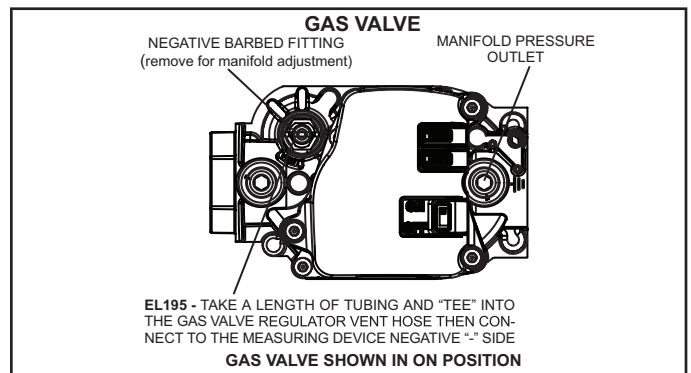

FIGURE 4
- 2 - Remove the heating compartment access panel. Turn the automatic gas valve switch to the OFF position. See figure 4.
When testing supply gas pressure, use the 1/8" N.P.T. supply line tap located on the gas valve to facilitate test gauge connection. See figure 4. Check gas line pressure with unit firing at maximum rate. Low pressure may result in erratic operation or underfire. High pressure can result in permanent damage to gas valve or overfire.
- 4 - If necessary, make adjustments. Figure 4 shows location of adjustment screw.
When testing manifold gas pressure, use the 1/8" N.P.T. plugged tap (manifold pressure outlet) located on the gas valve to facilitate test measuring device. See figure 4.
- 7 - Remove the negative barbed fitting as shown in figure 4 and using a screw driver make adjustment to increase or decrease manifold pressure.